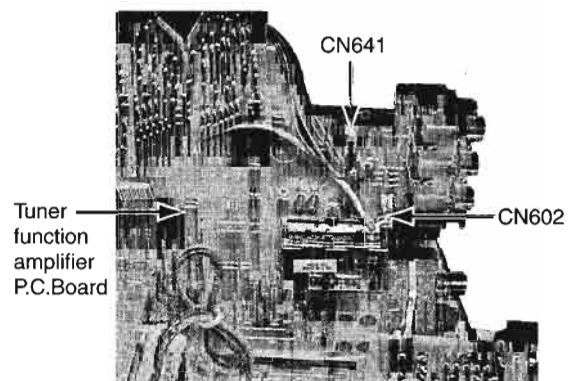

Fig. 7
6. Disconnect the connector from CN602, CN641 on the tuner function amplifier P.C.Board (See Fig 7).